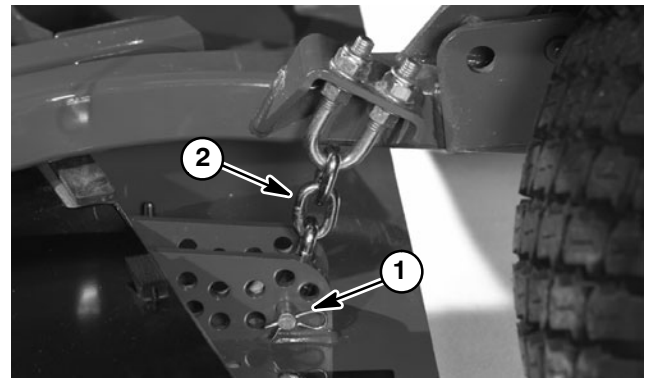

Figure 2
2. Remove hairpin and clevis pin that secure the height-of-cut chain to the rear of the cutting deck (Fig. 2).
4. Install clevis pin and hairpin that secure the height-of-cut chain to the rear of the cutting deck (Fig. 2).